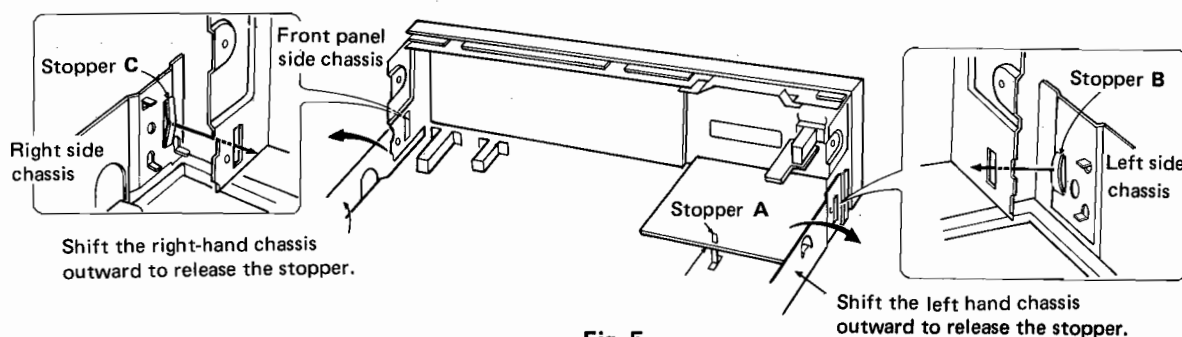

Fig. 5
5. Shift the right and left chassis outward as shown in **Fig. 5** to release the stoppers **B** and **C** out of the chassis holes on the front panel side.